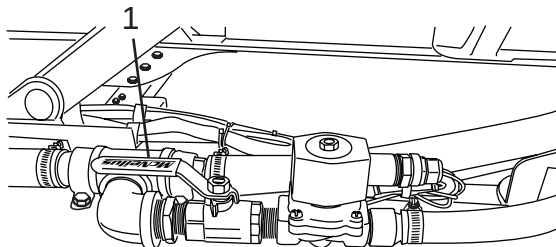

Figure 72
1. Open the water injection ball valve (Figure 72, Item 1).
4. Close the water injection ball valve (Figure 72, Item 1).